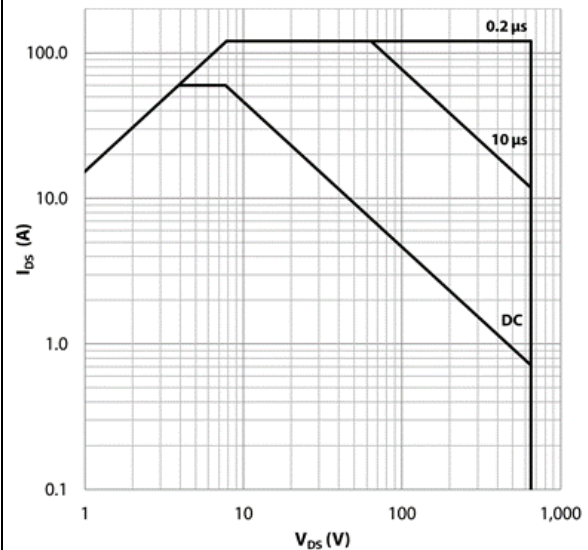

Figure 12: Safe Operating Area @ $T_{case} = 25\text{ }^{\circ}\text{C}$
(6) See Figure 12 for timing test circuit diagram and definition waveforms.